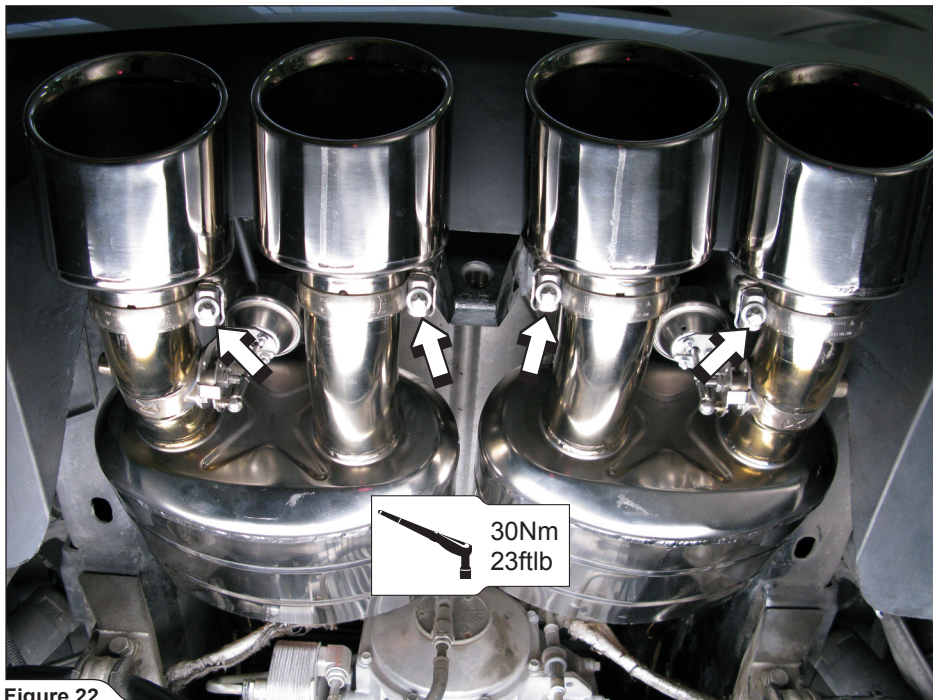

Figure 22
11. For Slip-On and Evolution: tighten the tail pipe clamps to a specified torque (Figure 22).